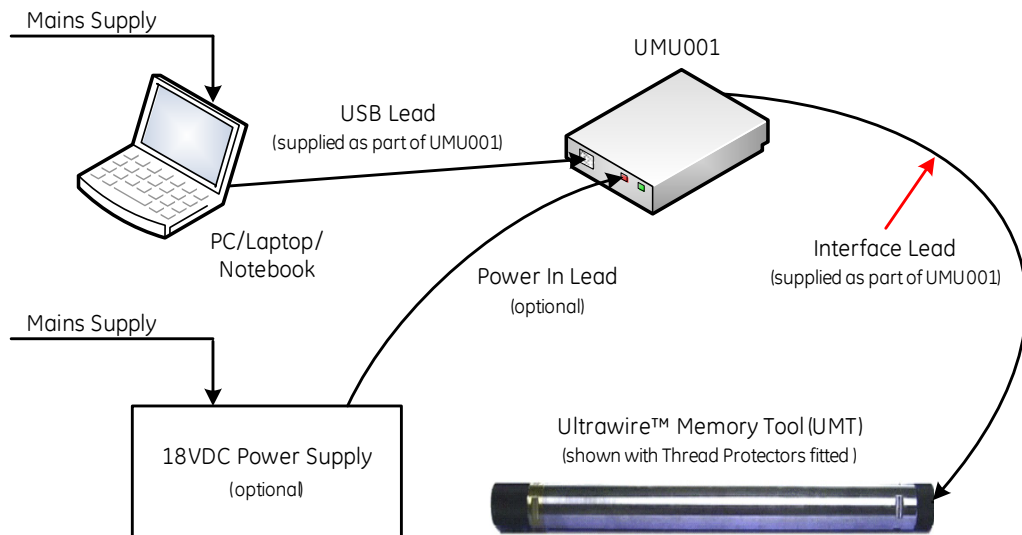

Figure 4.1 Programming connection diagram
The surface connection to the UMT007 is a USB connector via the Ultrawire™ Memory Control Unit (UMU001). The USB power alone is sufficient **ONLY** for UMT007 programming and data downloading. An 18VDC external power supply **MUST** be connected via the UMU001 to power a toolstring for tests at the surface. Refer to Figure 4.1 for interconnection information.
- 2 When the job profile has been created, remove the upper Thread Protector (item 5) and connect the UMT007 as shown in Figure 4.1.